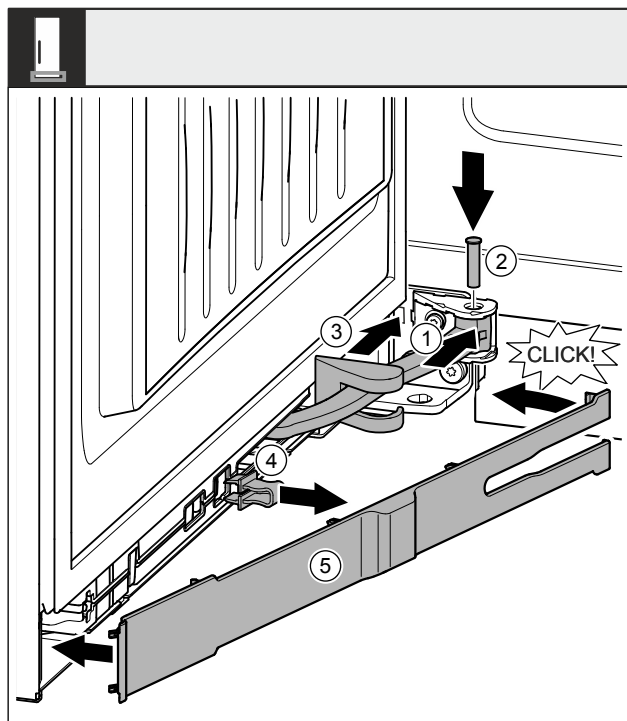

Fig. 54
- ▶ Turn the joint Fig. 54 (1) in the attachment.
- ▶ Use a screwdriver to insert the bolt Fig. 54 (2) into the attachment and the joint. Ensure that the latching cam is in the groove properly.
- ▶ Push the swap bearing block cover Fig. 54 (3) along the joint and use the attachment to fit it.
- ▶ Remove the safeguard Fig. 54 (4).
- ▶ Place the trim Fig. 54 (5) on the handle side and swing in.